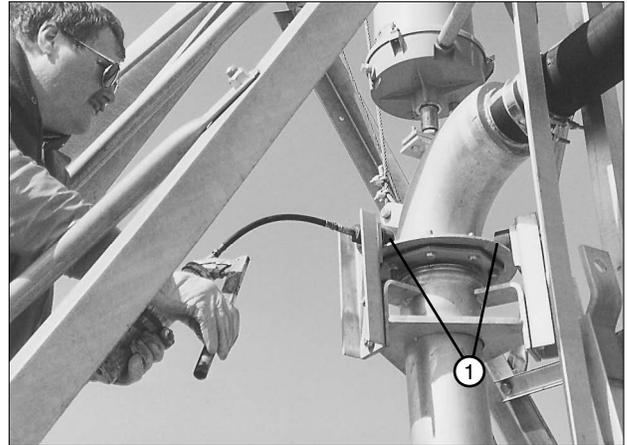

Figure 71-1 1. Upper Swivel Roller
1. Lubricate three (3) upper swivel rollers. See Figure 71-1.